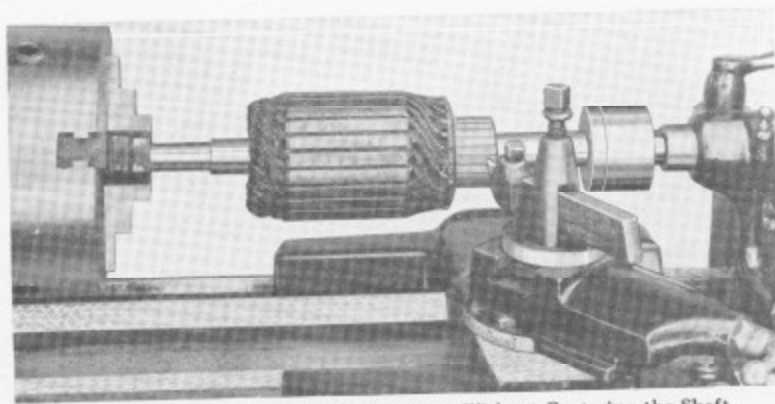

Fig. 15. Truing an Armature Commutator Without Centering the Shaft
**Drilling New Center Holes.**—Sometimes armature shafts do not have center holes. In such cases it is necessary to center drill each end of the shaft before turning the commutator true. The set up of the work for restoring center holes described in the preceding paragraph may be applied for setting up the job. A combination drill and countersink and drill chuck held in the tailstock spindle may be used for drilling the new center holes, or follow method shown in Fig. 15 on page 7.
**Truing Commutator Having Shaft Without Center Holes.**—Armatures often arrive in the shop having shafts with no center holes. To true the commutator without centering the shaft, we mount the armature as shown in Figure 15, illustrated above. Place one end of the armature shaft in a universal geared scroll chuck mounted on the lathe spindle and place the other end of the shaft in a bushing which is fitted into a holder which fits the taper of the tailstock. The armature mounted this way is held true in about the same position as when it is in its bearing in the motor. The operator may then proceed to true up the commutator as instructed on pages 3 and 4.